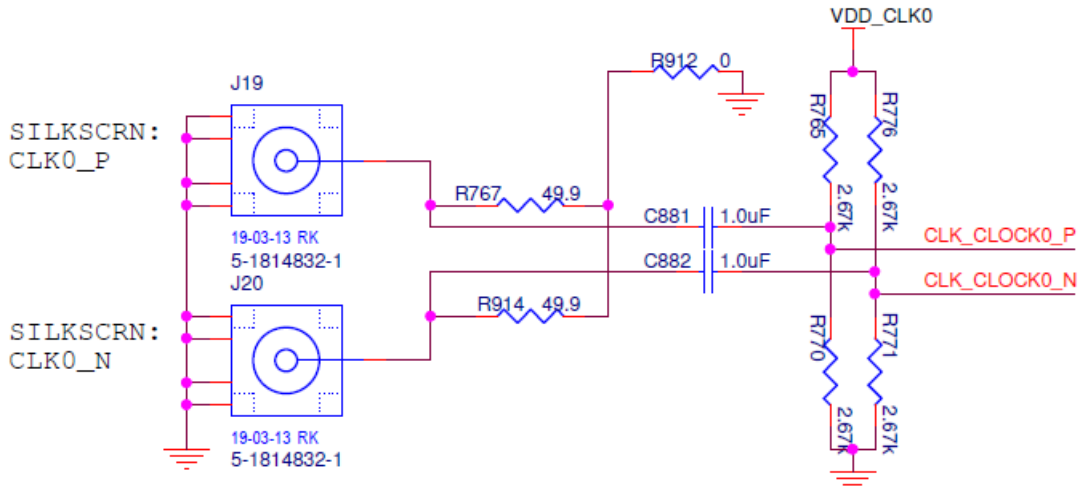
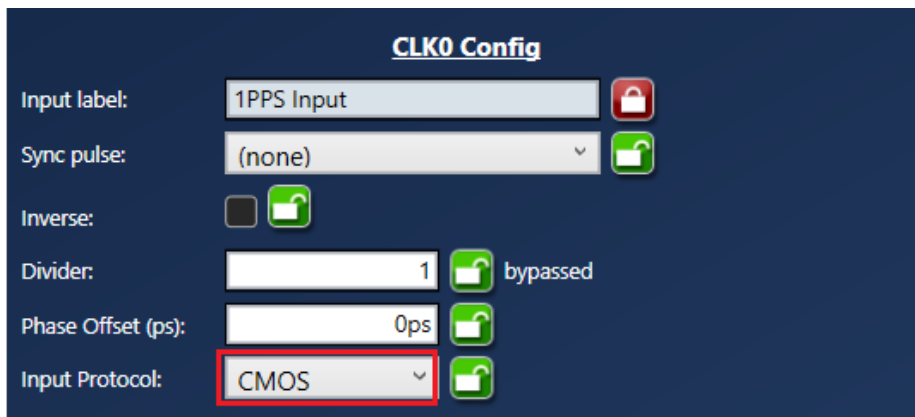

Figure 14. AC Coupling and Terminations for Input Clock
Figure 15. Configuring CLK0 as CMOS to Receive a 1PPS Input
The following rework must be implemented in order to support a 1PPS input clock. All input clocks for this board are AC-coupled and terminated as shown in Figure 14.
- In Figure 14, to make CLK0 supportive of 1PPS input, first configure CLK0 as LVCMOS in Timing Commander (see Figure 15).